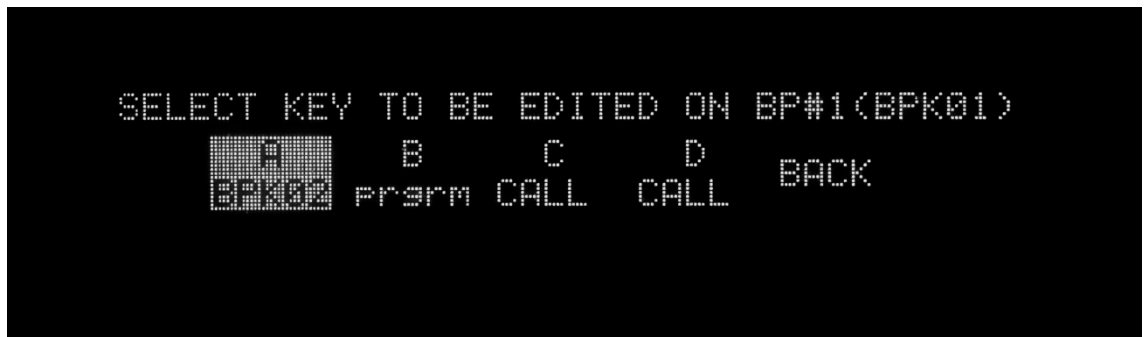

Figure 6-17 Select beltpack key
- 11) A list of the audio routes and groups available for selection is visible. Select the beltpack key to assign communication to (A, B, C or D). See Figure 6.17 below.